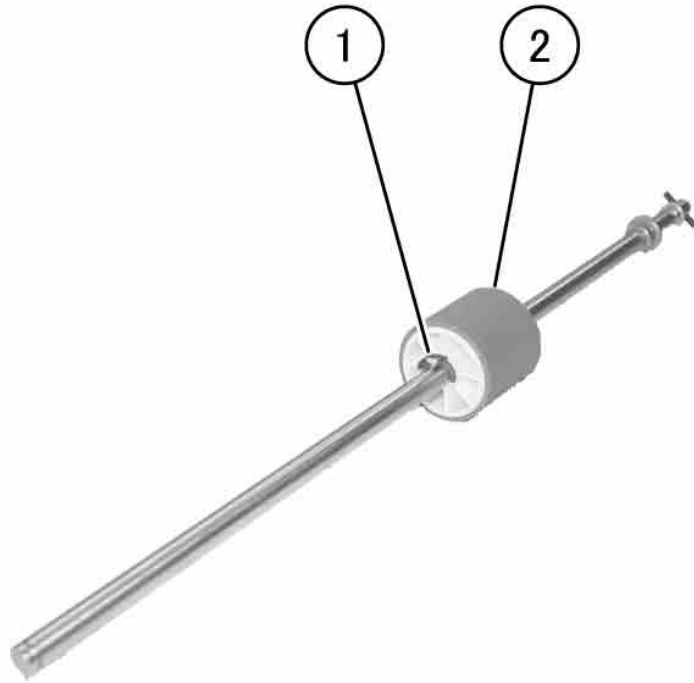

Figure 2 Remove Tray 2 Feed Roll
3. Remove the Tray 2 Feed Roll (Figure 2).